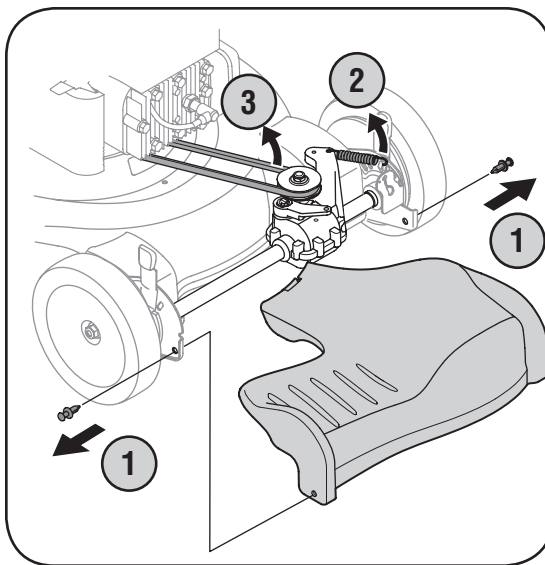

Figure 5-3: Removing front drive cover.
1. Remove the front drive cover by sliding off the two plastic rivets on each side of the cover with a screwdriver. See Figure 5-3.
2. Disconnect belt tension spring from transmission. See Figure 5-3.